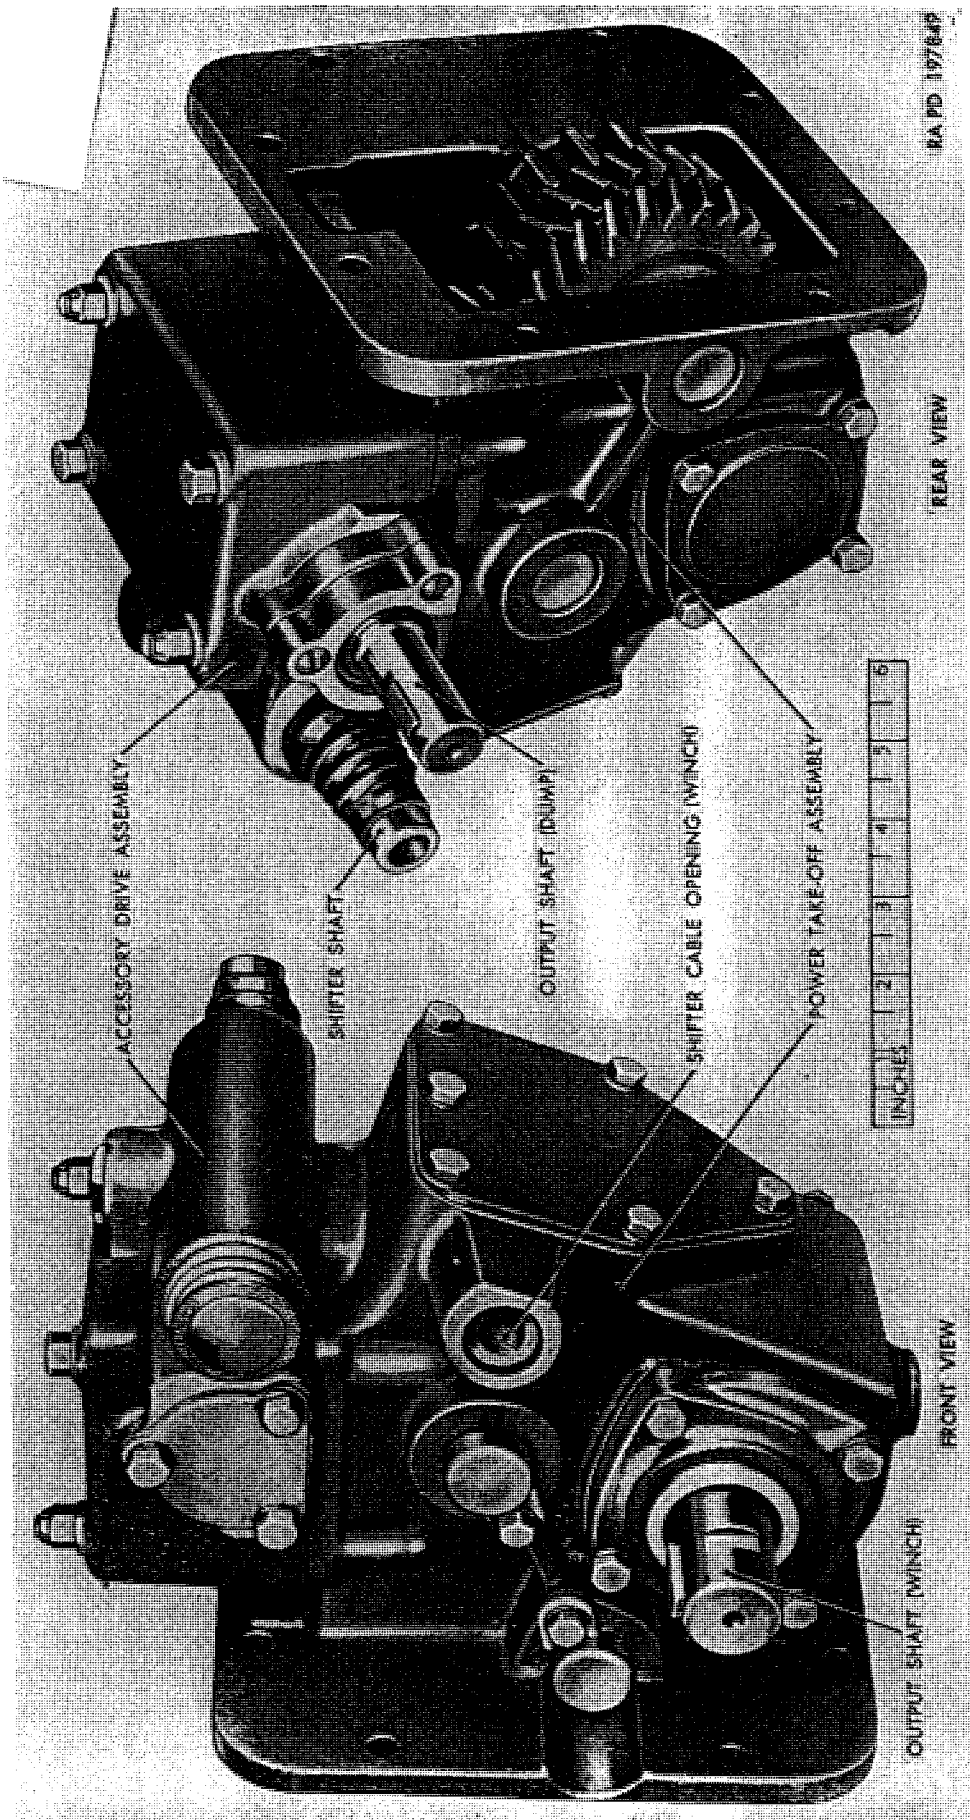

Figure 219. Front and rear views of dump body hoist and winch power-take-off and accessory drive assemblies.
- (2) *Power-take-off (winch and dump body hoist)*. Power-take-off used on vehicles equipped with dump body and winch is illustrated in figure 219. This unit is equipped with an accessory drive, mounted at top of power-take-off, and provides means for driving dump body hoist pump. Accessory drive output shaft and control shaft are toward rear.